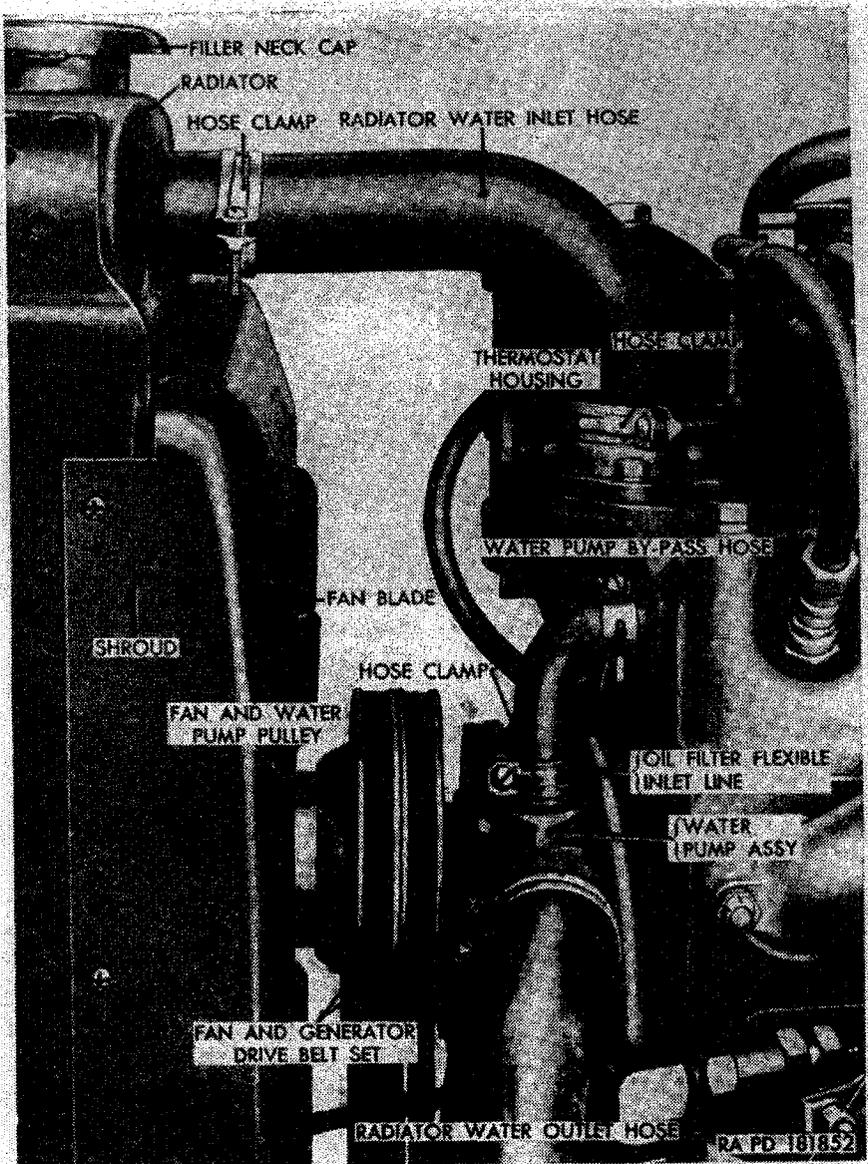

Figure 60. Cooling System.
a. *Description.* The cooling system (fig. 60) includes the radiator, fan, water pump, water temperature thermostat, fan and generator drive belts, and connecting hose and fittings. The radiator is the cellular-type with upper and lower tanks. A pressure-type filler neck cap permits cooling system pressure to rise to $4\frac{1}{2}$ psi. The four-blade fan and the centrifugal-type water pump are driven from the generator drive pulley by a matched pair of V-belts. The water temperature thermostat is a bellows-type, located on top of the cylinder head in the thermostat housing. With the coolant below normal operating temperature (160° to 180° F.), the thermostat blocks coolant return to the top of the radiator, returning the coolant directly to the pump through the water pump bypass.
- (1) Drain the cooling system (par. 127a(1)) and remove the radiator guard (pars. 257a for the M38A1 and 266a for the M170).
- (2) Loosen the hose clamp screws on the radiator water inlet and water outlet hose (fig. 60) and pull hose from connections on radiator.
- (3) Lift the radiator with shroud assembly off the radiator-to-engine support rods, taking care that the radiator core does not rub against the fan blade.
(fig. 60)
a. Removal (fig. 60).
- (1) Remove the radiator with shroud assembly (par. 128*a*). Loosen the hose clamp screw on the water pump end of the radiator water outlet hose, and remove hose with clamp from connection on the water pump. Loosen the hose clamp screw on the water pump end of the water pump bypass hose. Remove the fan and generator drive belt set (par. 130*b*).
- (2) Remove the four bolts and lockwashers securing the fan blade to the fan and water pump pulley, and remove fan blade.
- (3) Remove the four screws and lockwashers securing the water pump to the cylinder block. Pull the pump with pulley and gasket from the cylinder block, at the same time, slipping the connection on the water pump out of the end of the water pump bypass hose. Discard gasket.
- (1) Place the fan and water pump pulley on the end of the water pump shaft and press it onto the shaft until the front face of the pulley hub is flush with the end of the shaft.
- (2) Make sure the gasket surfaces of the cylinder block and water pump body are clean and free of rust or scale. Place a new gasket on the water pump body with the gasket holes aligned with the bolt holes in the water pump body.
- (3) Position the water pump assembly (fig. 60) in the opening in the front of the cylinder block, at the same time, sliding the water pump bypass hose with clamp over the connection on the water pump.
- (4) Insert a $\frac{5}{16} \times 2\frac{1}{2}$ screw, with lockwasher, through the hole in the water pump body inlet opening. Start the threads but do not tighten. Insert a $\frac{5}{16} \times \frac{7}{8}$ screw, with lockwasher, into the top mounting hole in the water pump body and through the clip securing the flexible oil line to the cylinder block, and start the threads. Insert two $\frac{5}{16} \times \frac{7}{8}$ screws, with lock-
- (5) Screw the nut on the fuel line (A) into the elbow (C). Screw the nut on the vacuum pump-to-tee line (J) end into the elbow (L). Screw the nut on the vent line (F) end into the elbow (H). Screw the nut on the fuel line (P) end into the flexible fuel line (R).